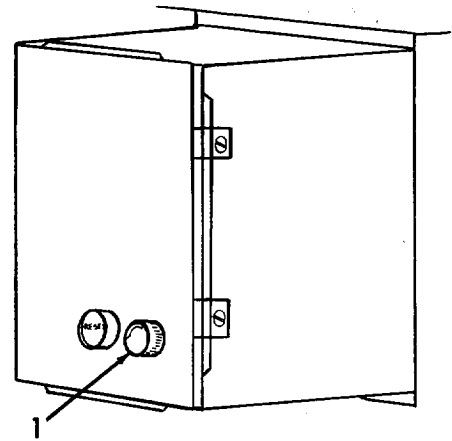

Figure 2-7. Motor Shut-Down.
a. Refer to Figure 2-7. Turn the motor starter box on/off switch (1) to stop the motor.